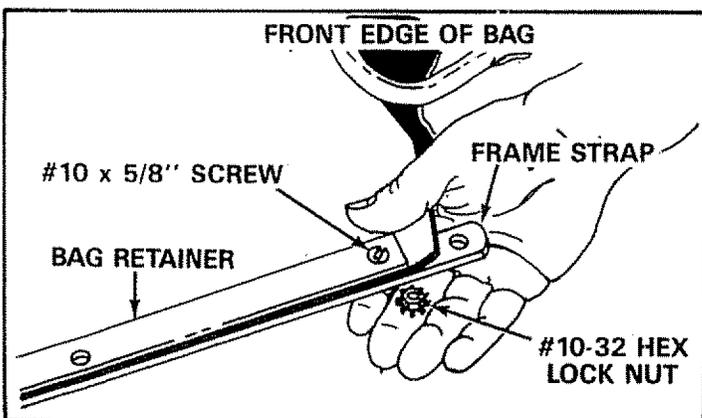

FIGURE 15
- Assemble the bag frame strap (bottom) and bag retainer (top) to the front edge of bag bottom. Place the bag retainer on top and frame strap on bottom. Secure with six #10 x 5/8" slotted screws, and #10-32 hex lock nuts. See figure 15.